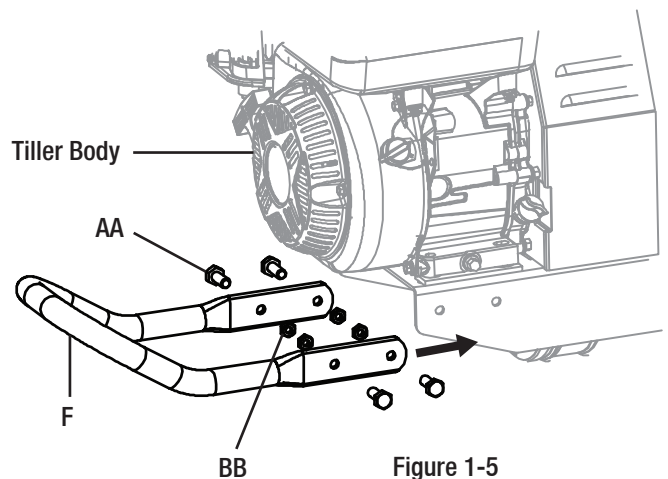

Figure 1-5
- Insert the bumper (F) into the front end of the tiller body just below the engine. Align the pre-drilled holes and insert M8x20 bolts (AA) and M8 nuts (BB) and tighten. See Figure 1-5.